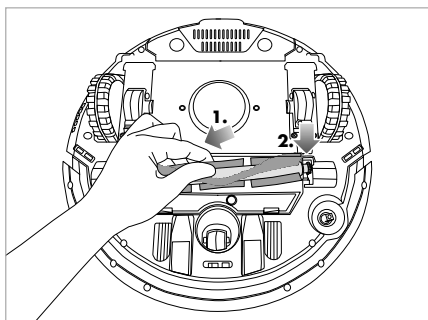

Fig. 18
- 3) To re-insert the rotary brush 31, first slide it to the left onto the holder and then let it engage with the holder on the right (see Fig. 18).